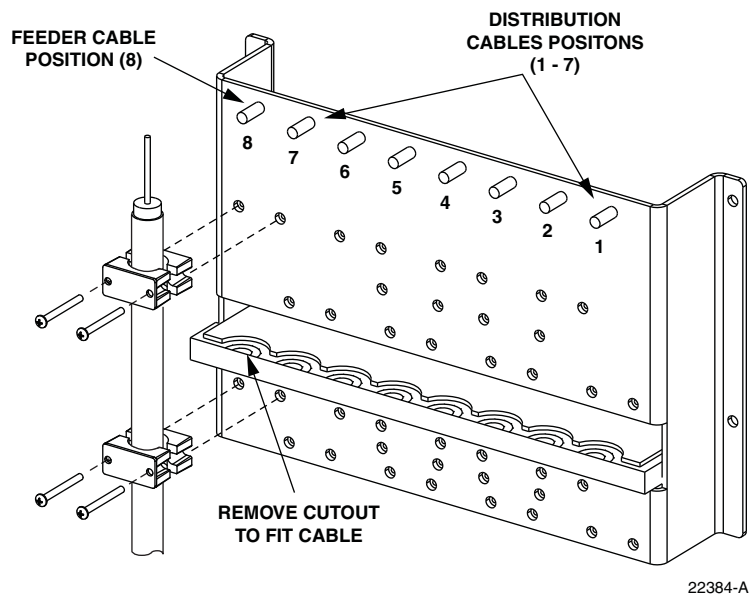

Figure 17. Secure Feeder Cable to Cable Bracket
5. Locate the cable clamping position specified for securing the feeder cable to the cable bracket as shown in Figure 17.